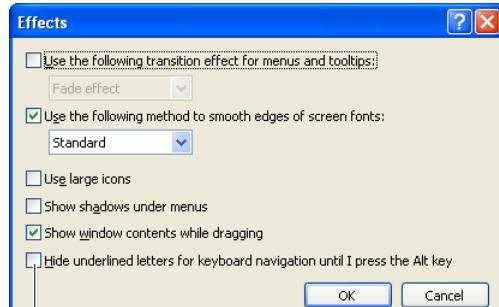

Figure 5.3 Effects dialog box
- In the Effects dialog box (figure 5.3), tick or clear the **Hide underlined letters for keyboard navigation until I press the Alt key** checkbox as required.